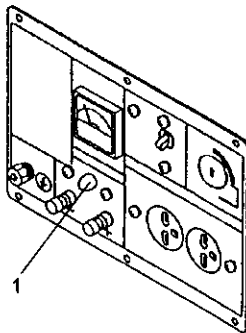

Fig. 9.4.4
- When the DC power supply is to be used, press the RESET button 1 as the DC breaker might be activated. (Fig. 9.4.4)